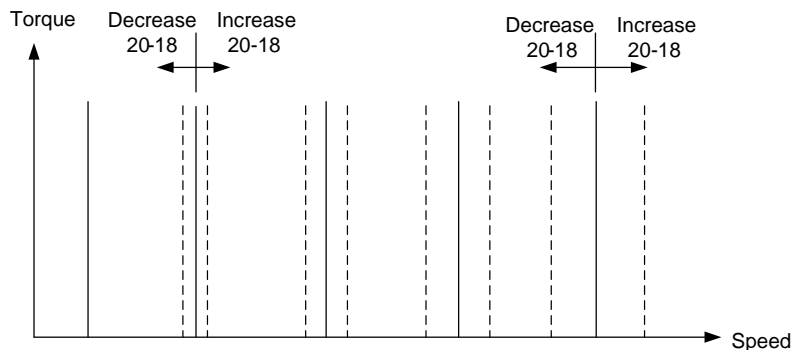

Figure 4.3.100 Effect on the torque-speed curve from 20-17
- Use parameter 20-18 to adjust the torque compensation gain for middle to high speed range. For most general purpose applications it is not necessary to adjust the 20-18. By tuning 20-18 an offset is added to the torque-speed curve. Increase 20-18 when the no-load speed is lower than the frequency reference. Decrease 20-18 when the no-load speed is higher than the frequency reference. The effect on the torque-speed curve from 20-18 is shown as the following Fig.4.3.100.